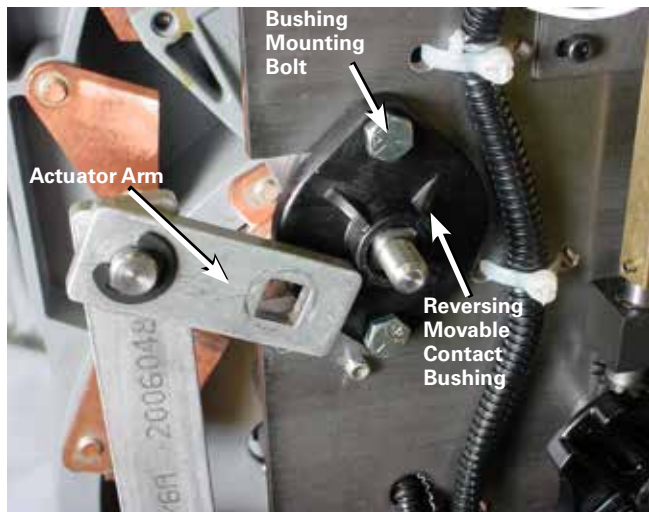

Figure 56. Reversing actuator arm removed.
3. Using a 7/16" wrench, loosen and remove both bushing-mounting bolts. See Figure 56.